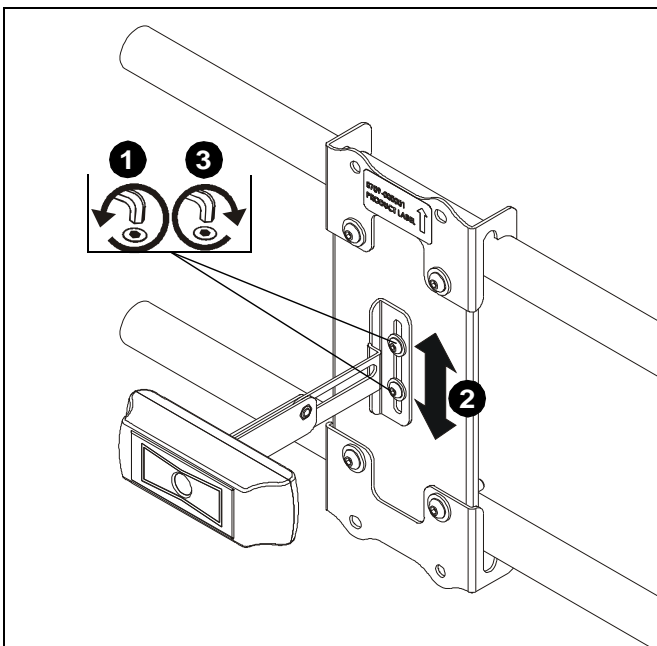

Figure 10
1. Loosen two screws (D) holding camera mount (A) to center plate (B). (See Figure 10)
2. Adjust camera height to desired height. (See Figure 10)
3. Tighten two screws (D) holding camera mount (A) to center plate (B). (See Figure 10)